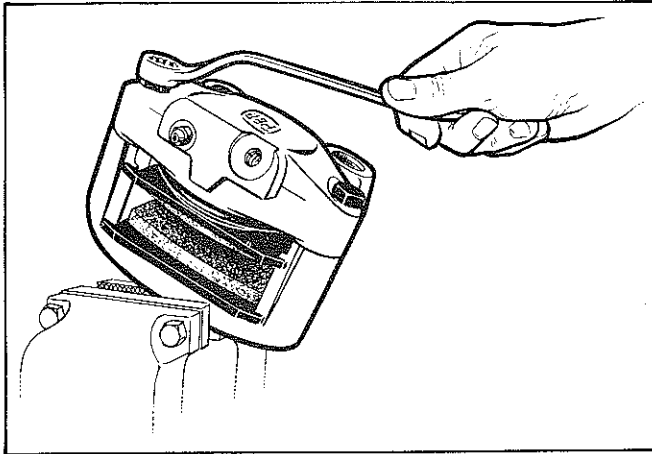

Fig. 5—Separating caliper body from pad support.
- (1) Remove the caliper as previously described.
- (2) Slide the mounting sleeves out of the caliper body.
- (3) Remove the dust seals and boots from the caliper body.
- (4) Hold the caliper in a vice as shown in Fig. 5 and separate the caliper body from the pad support by removing the joining bolts.